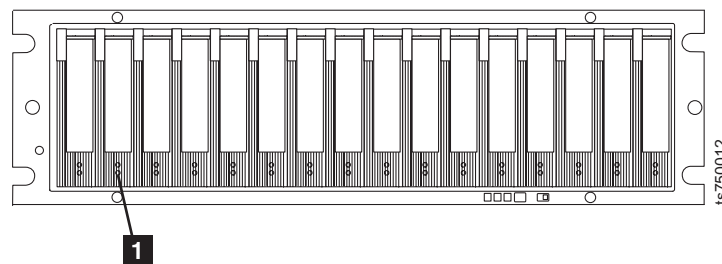

Figure 61. Drive fault LEDs
- 12. ___ Ensure that no drive fault LEDs (**1** in Figure 61) are lit on any cache component. If any fault lights are lit, refer to the *Checking the LEDs* section of the *IBM Virtualization Engine TS7500 Problem Determination Guide* to determine the cause and recommended course of action before proceeding.